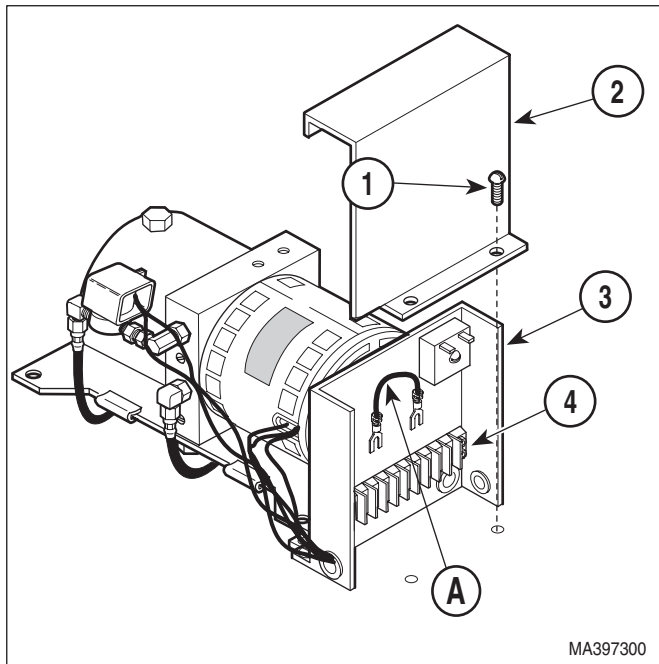

Figure 4-25. Jumper Wire Connection / Disconnection
- (1) Remove motor cover assembly (Refer to para 4.2).
- (2) Remove two screws (1, Figure 4-25) and control cover (2) from control panel (3).
- (6) If installed, remove jumper wire (See Figure 4-25) from terminals of terminal block (4).
- (7) If removed, install control cover (2) on control panel (3) and secure with two screws (1).
- (8) If removed, install motor cover assembly (Refer to para 4.2).
- (9) Install upholstered seat and back section (Refer to steps 6 and 7 of para 4.25).